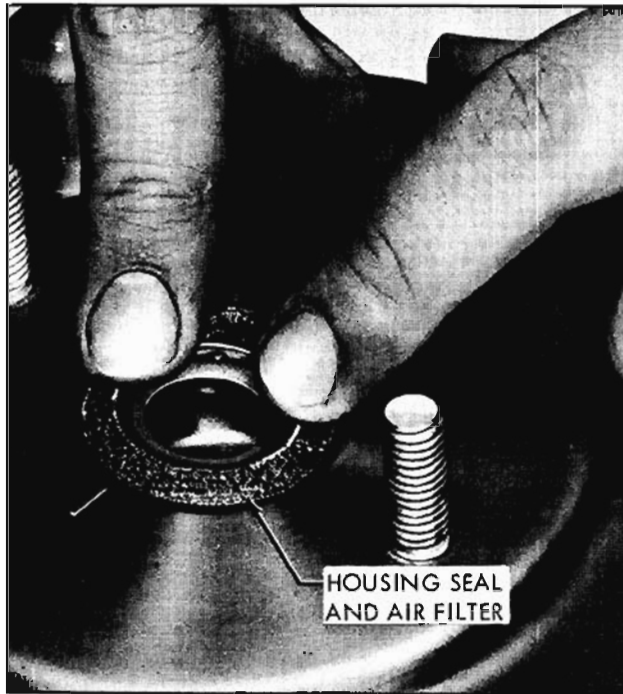

Fig. 11-63 Installing Housing Seal and Air Filter
10. Apply lubricant to a new front housing seal and install seal in the front housing, metal ridge of seal up. (Fig. 11-63)